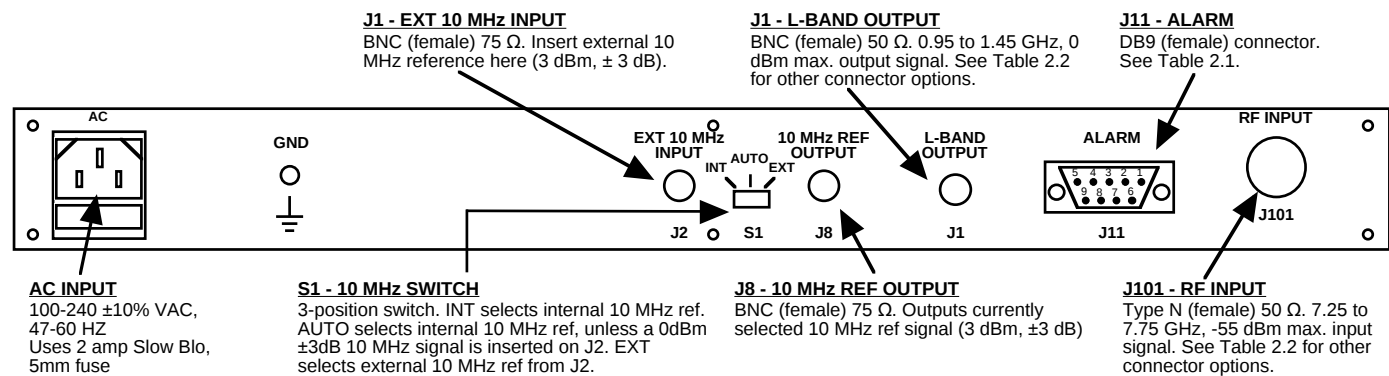

FIGURE 2.1 2116-72 Rear Panel I/O's
2.2 Rear Panel Input/Output Signals - Figure 2.1 shows the input and output connectors on the rear panel.
- 1.) Connect a -55 dBm to -35 dBm signal to RF INPUT, J101 (Figure 2.1).
- 5.) Select either INT (for internal 10 MHz ref), AUTO (for internal 10 MHz ref UNLESS a external 10 MHz, 0 dBm signal is connected to J2), or EXT (for external 10 MHz, 0 dBm reference that is inserted at J2) on rear panel switch S1 (Figure 2.1).
- 7.) Check that a 10 MHz, 0 dBm ± 3 dB signal is present at the 10 MHz REF OUTPUT (J8) (Fig.2.1).